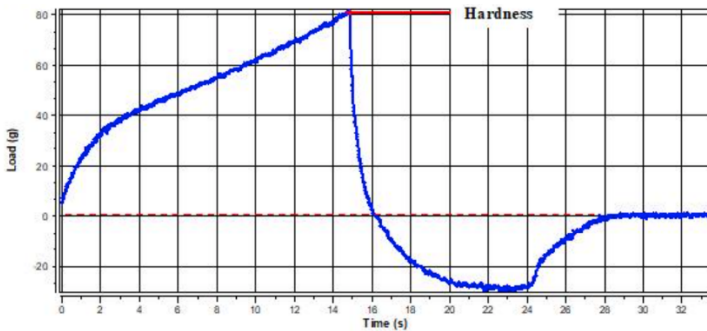

Figure 1
- Figure 1: Load vs. Time graph displays the dough’s hardness, with the peak force representing the maximum load required to penetrate 15 mm.